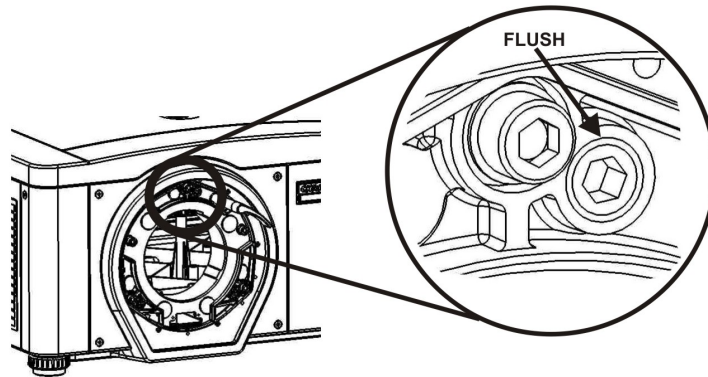

FIGURE 2-20 POSITION SETSCREW FLUSH
9. The original factory boresight can be recovered approximately by positioning the 3 setscrews, see *Figure 2-19 Screw Locations*. Position the setscrews flush with the front face of the lens mount plate and in contact with the inner lens mount plate, see below *Figure 2-20 Position Setscrew Flush*. This may require adjusting both setscrews and capscrews.